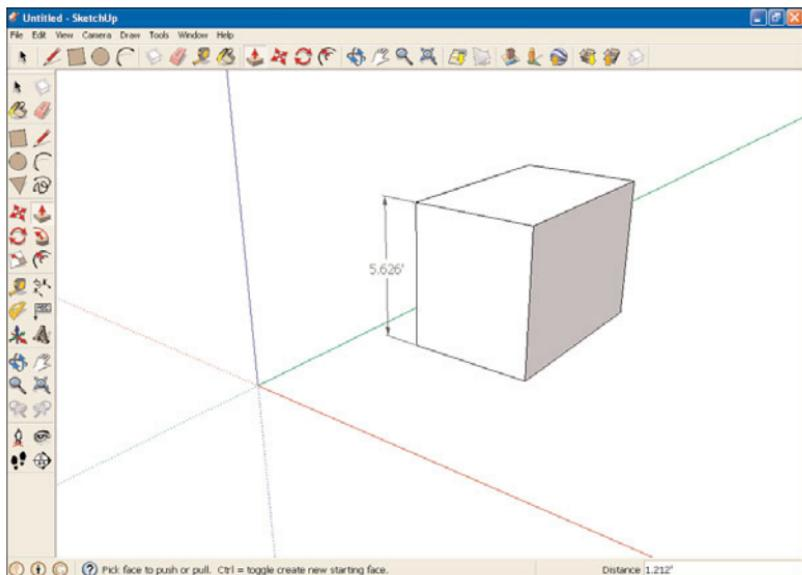

FIGURE 10.5 A cube with a dimensioning label.
7. Click to fix the dimensioning guide in place. The dimensioning label displays the length of the edge you've attached it to, as shown in Figure 10.5.